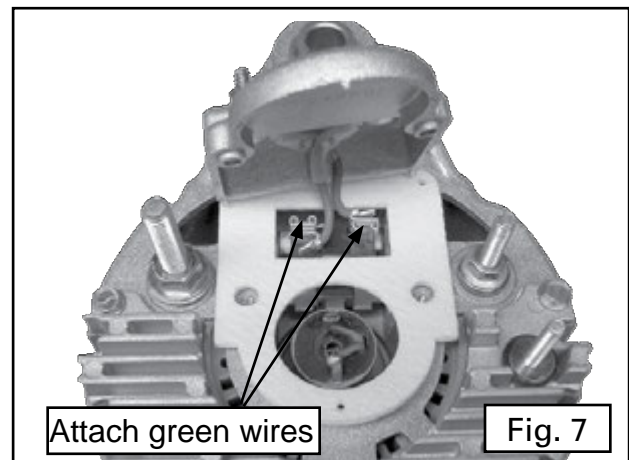

Fig. 7
Step 7: Place remote regulator cover on alternator and attach two green wires to alternator brushes. (Fig. 7)